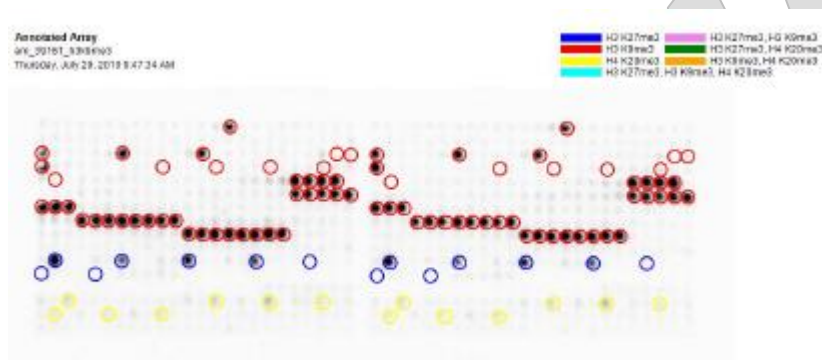

Figure 9. Example of an Annotated Array Overlay
6.16. The **Annotated Array** tab allows the user to select up to three modifications to be displayed in superposition to the experimental data. The modification selections can be order to see the array grid overlay or to identify the modifications on both sides of the array. Use the colour coding to identify the modifications. The annotated array also helps align the grid to the experimental data. The user can use this tab as a guiding tool for grid alignment. See **Figure 9** below for an example.